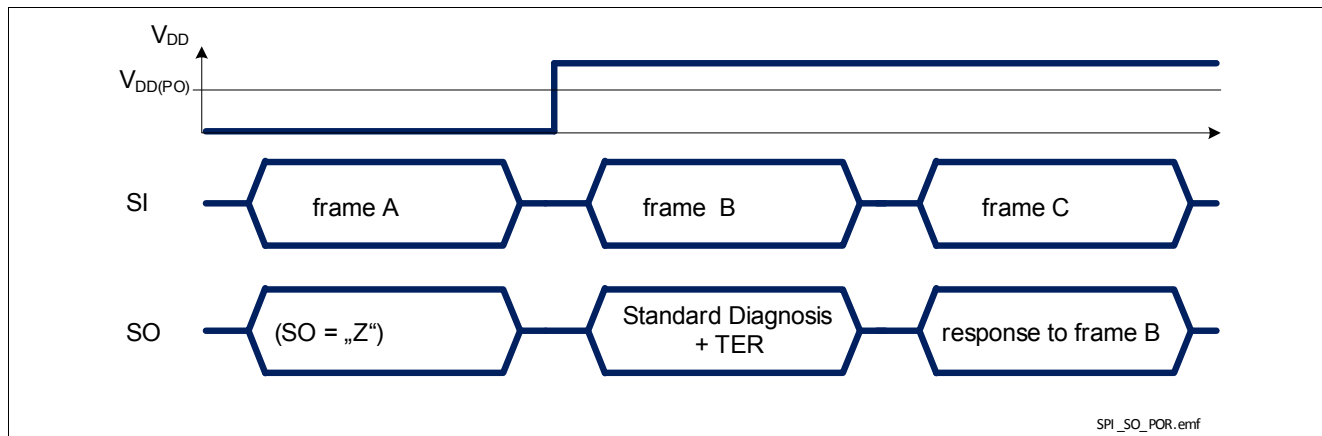

Figure 33 BTS54040-LBF response after coming out of Power-On reset at V_{DD}
- when BTS54040-LBF logic supply comes out of Power-On reset condition, as shown in Figure 33